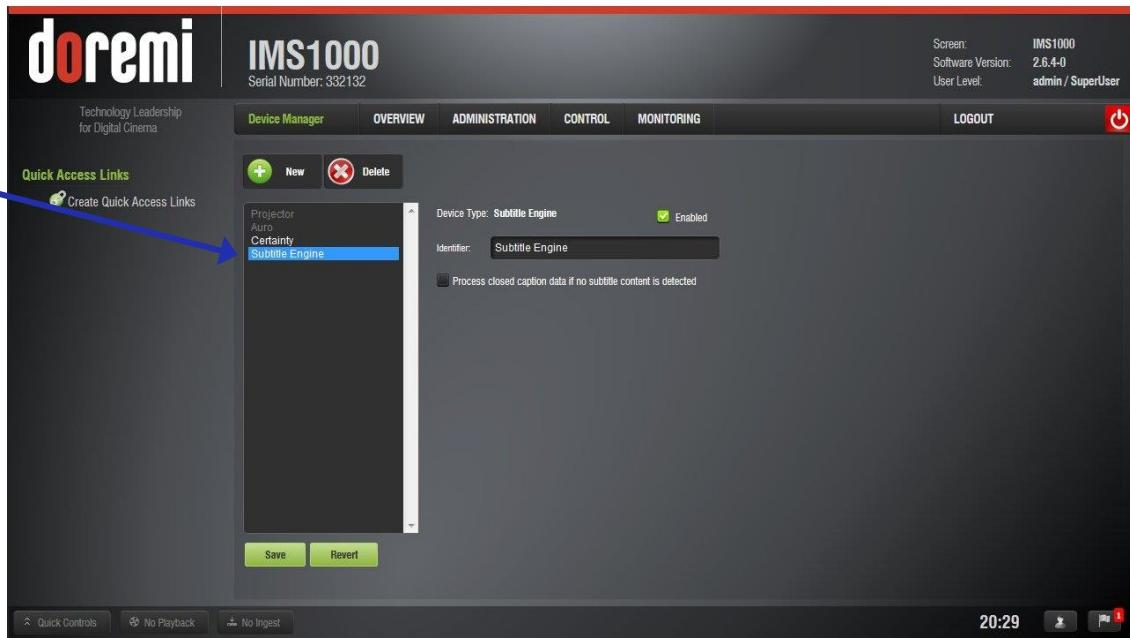

Figure 133: Subtitle Engine
- The device will be visible on the main Device Manager GUI (Figure 133).